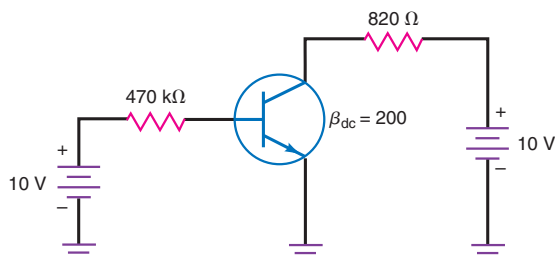

Figure 33-49
- 33.5 What is the base current in Fig. 33-49?